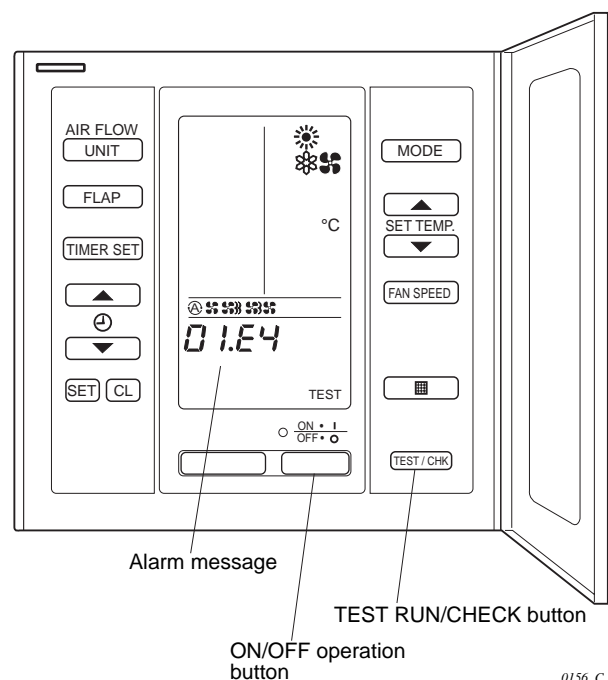

Fig. 11-3
- (a) Press the **TEST / CHK** button at the bottom right on the remote controller. (Fig. 11-3)